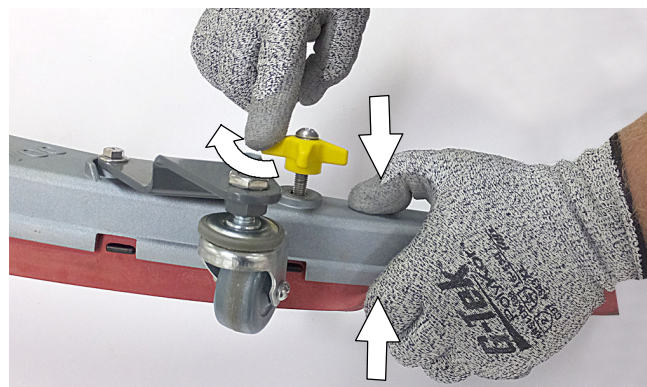

FIG. 129
5. Squeeze the squeegee frame and blade retainer together and re-tighten the two outside knobs (Figure 129).